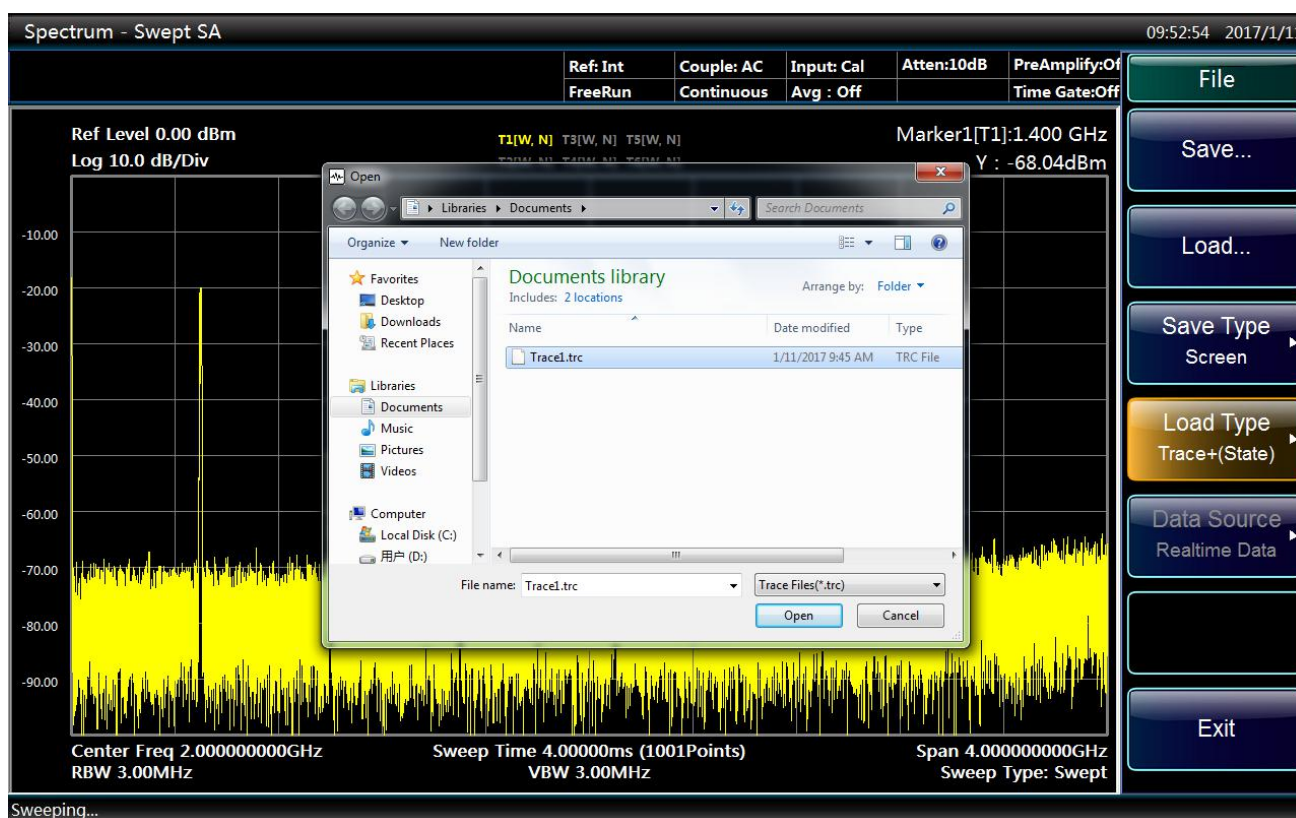

Fig. 3.26 File calling interface
- Press [Load...] Key to pop up Open File dialog, select the file named to be called and click Call as shown in Fig. 3.26.